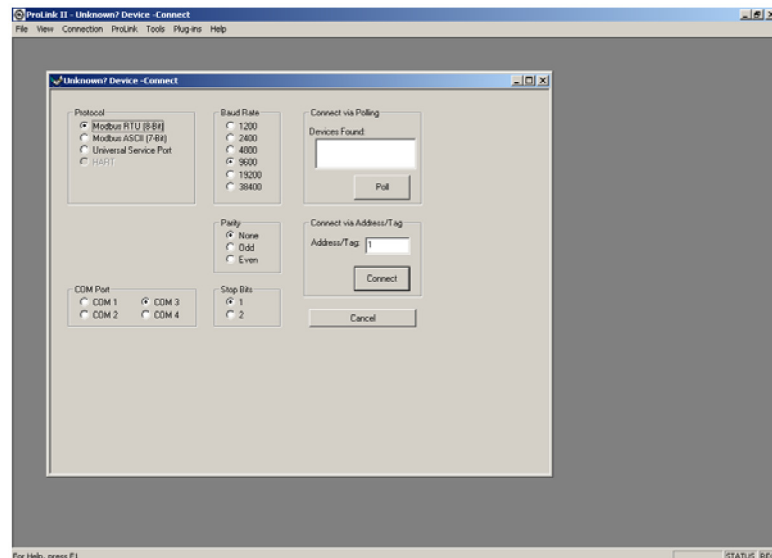

FIGURE 5.3
5. Launch ProLink, click on *Connection*, then *Connect to Device*. Verify the following settings (see Figure 5.3):